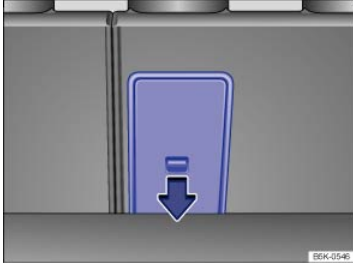

Fig. 154 In the luggage compartment: Opening the pass-through.
- **OR:** Open the pass-through from the luggage compartment. Press the release lever ⇒ Fig. 154 in the direction of the arrow and push the cover forward.